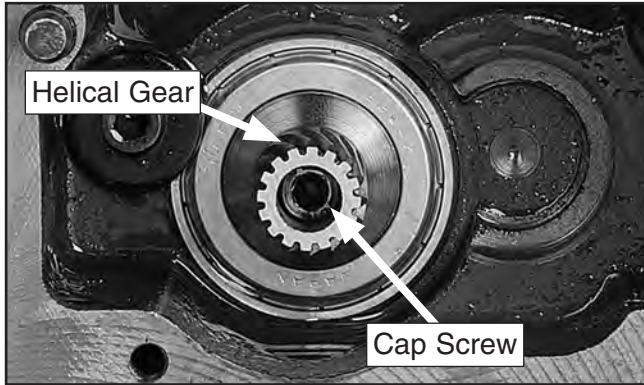

Figure 9. Helical gear and cap screw.
24. Remove the cap screw from inside of the helical gear shown in **Figure 9**, and remove the sprocket.